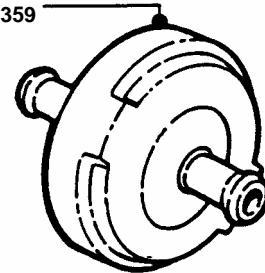

FIGURE 3.11
3. Install new fuel filter part number 1-4359. See Figure 3.11.